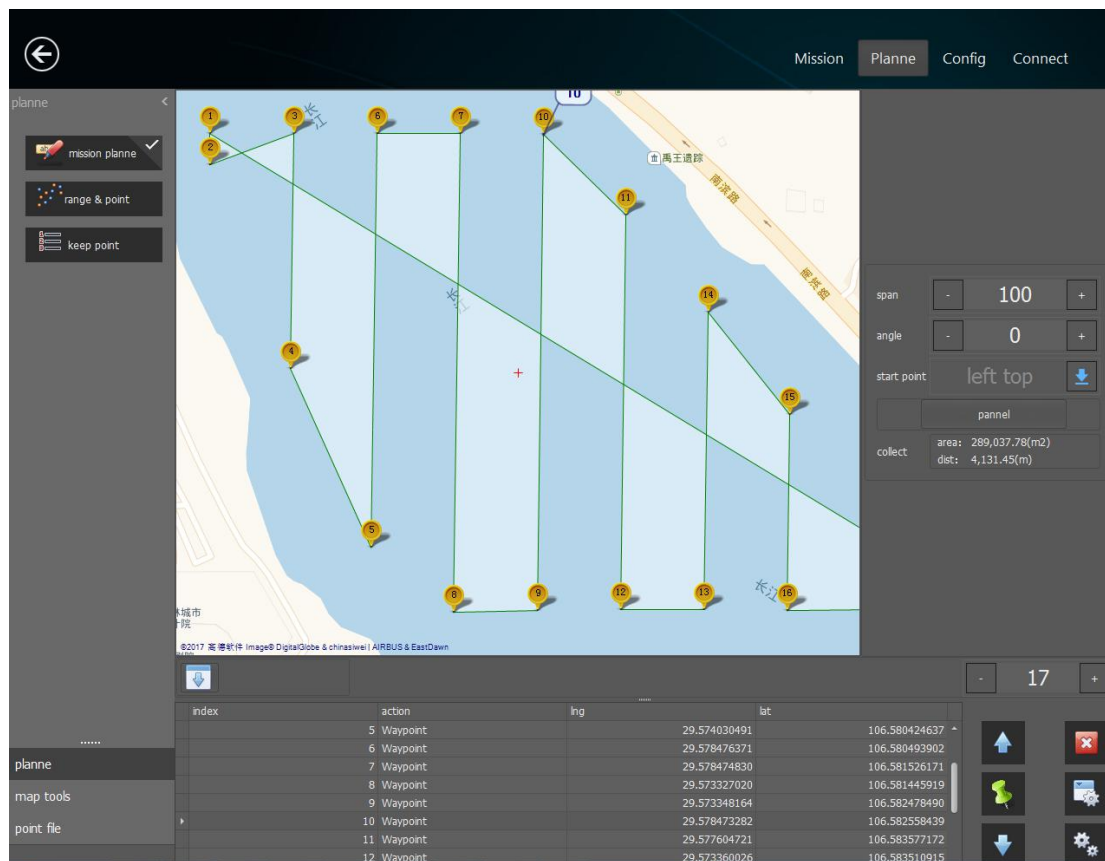

Figure 28 Save Waypoint
3) After the plan is confirmed, click the "record navigation point" button to convert the planning point to the navigational point and route, figure 28.